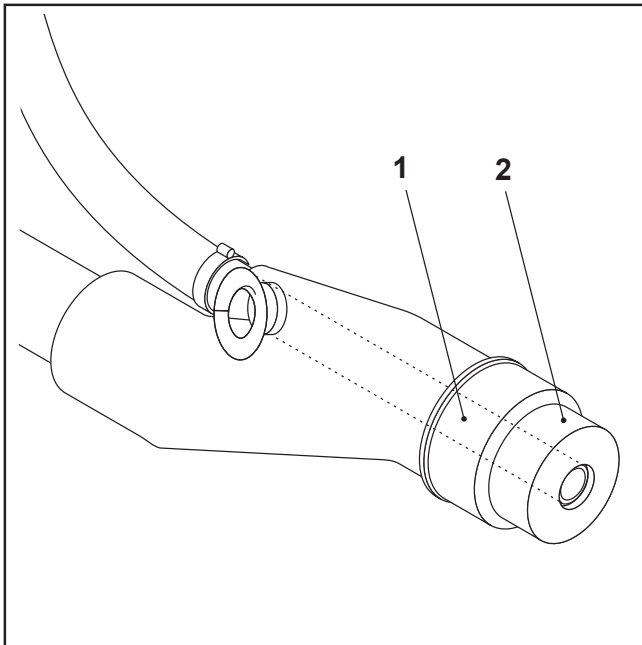

FIG.26
- Remove the gun and wash it carefully, disassembling the deflector (FIG.26-REF.2).
- Make sure the nozzle hole (FIG.26-REF.1) is clear (if necessary, clean it with specific cleaner).